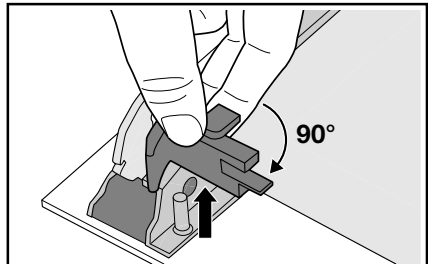

Fig. 28
8. Turn the 2 fasteners 90° and extract them from their seats (Fig. 28).